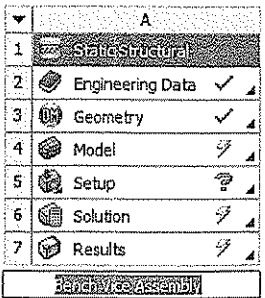

Figure 8-13 Renaming the analysis system to **Bench Vice Assembly**
4. Double-click on the name field of the **Static Structural** analysis system and rename it to **Bench Vice Assembly**, as shown in Figure 8-13.